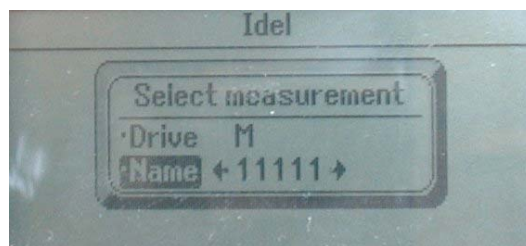

Fig. 25. File menu display, Name
- e. Use the  key and select Name. Select the file in question using the  or  keys. Fig. 25.